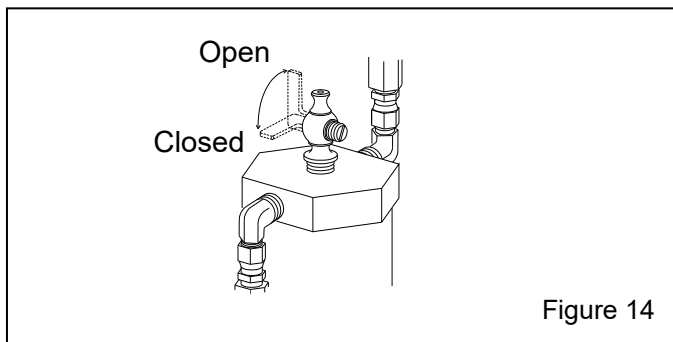

Figure 14
3.1.2 Make sure that the safety petcock located on the inlet valve is open to prevent unintentional blasting. The petcock is open when the petcock lever is in-line with the petcock, as shown in Figure 14.